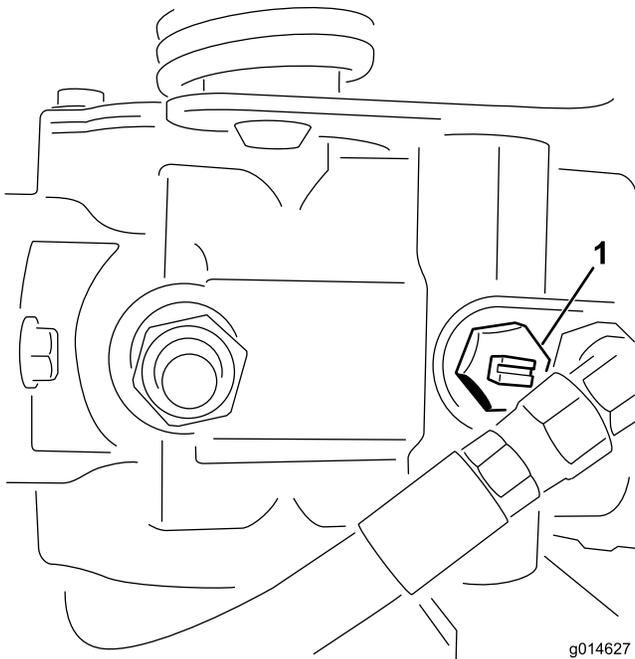

Figure 44
1. Locate the bypass valve on the pump and rotate it so that the slot is vertical (Figure 44).
2. Before starting the engine, close the bypass valve by rotating it so that the slot is horizontal (Figure 44). Do not start the engine when the valve is open.